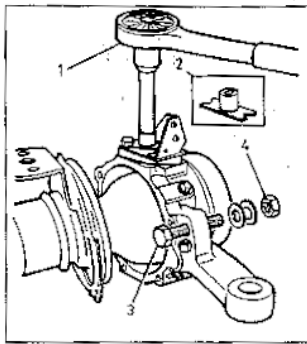

Fig. 13.142 Using a torque wrench to check the preload of the bearings in the swivel pin housing (Sec 13)
- 150 The preload on the bearings must now be checked. The preload should be between 0.2 and 0.25 mm (0.008 and 0.010 in) without the swivel housing oil seal and axle being fitted. The torque required to turn the swivel housing from lock to lock should be 5.1 to 7.3 Nm (45 to 65 lbf in). If adjustment is necessary, shims should be added to, or removed from, the top swivel pin. To make the check a tool may be made to locate between the top bolts as shown in Fig. 13.142.